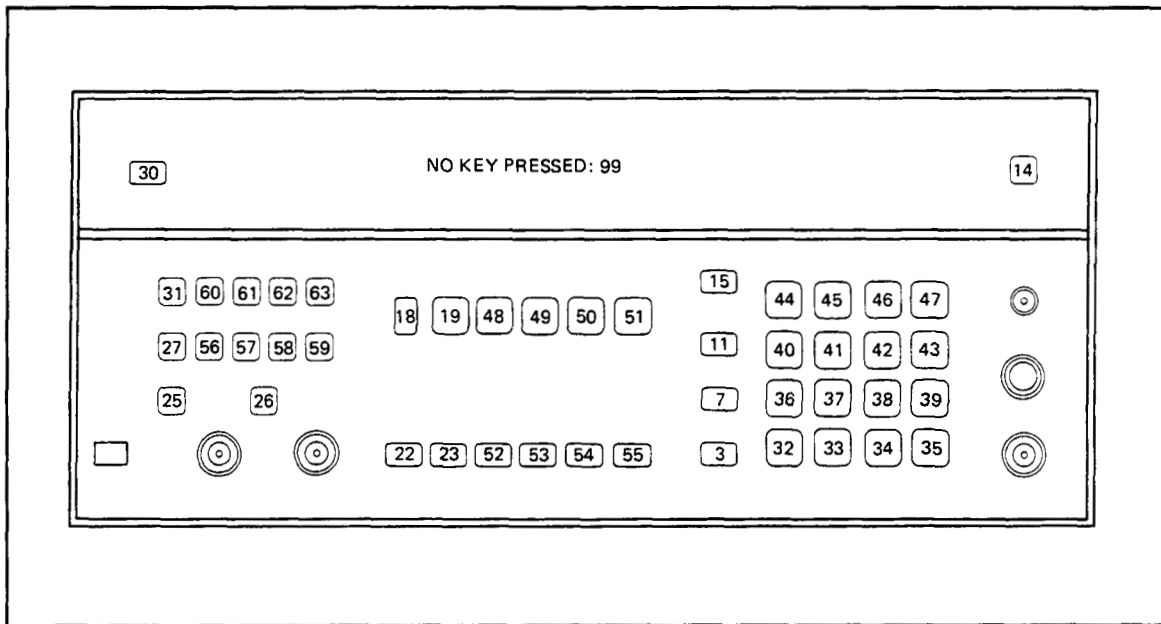

Figure 8D-8. Key Codes for Key Scan
3. Press the keys one at a time and compare the display with the key codes shown in Figure 8D-8. If a code other than 99 appears in the display with no key pressed, the key corresponding to the displayed key code is probably stuck down; see Service Sheet 25. If a wrong code appears for one or more keys, check the corresponding key and decoder; see Service Sheet 25.